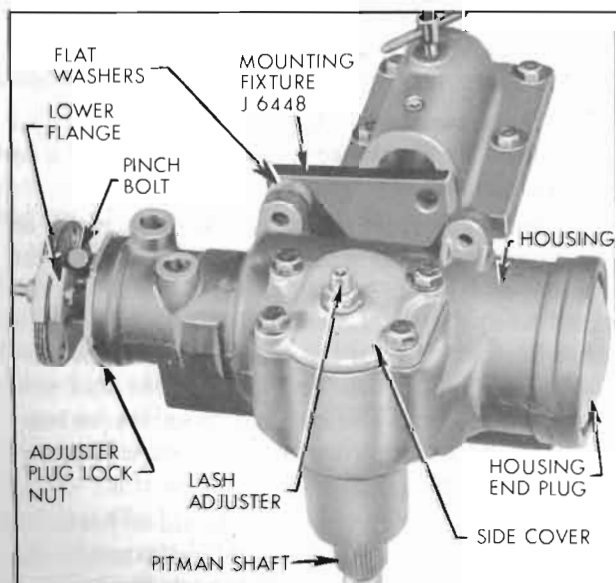

Figure 8-23—Steering Gear Assembled to Mounting Fixture
1. This adjustment is made when the gear is completely assembled. Assemble power steering gear assembly to Fixture J-6448. See Figure 8-23.
2. Assemble gear housing to fixture, J-6448. See Figure 8-23.